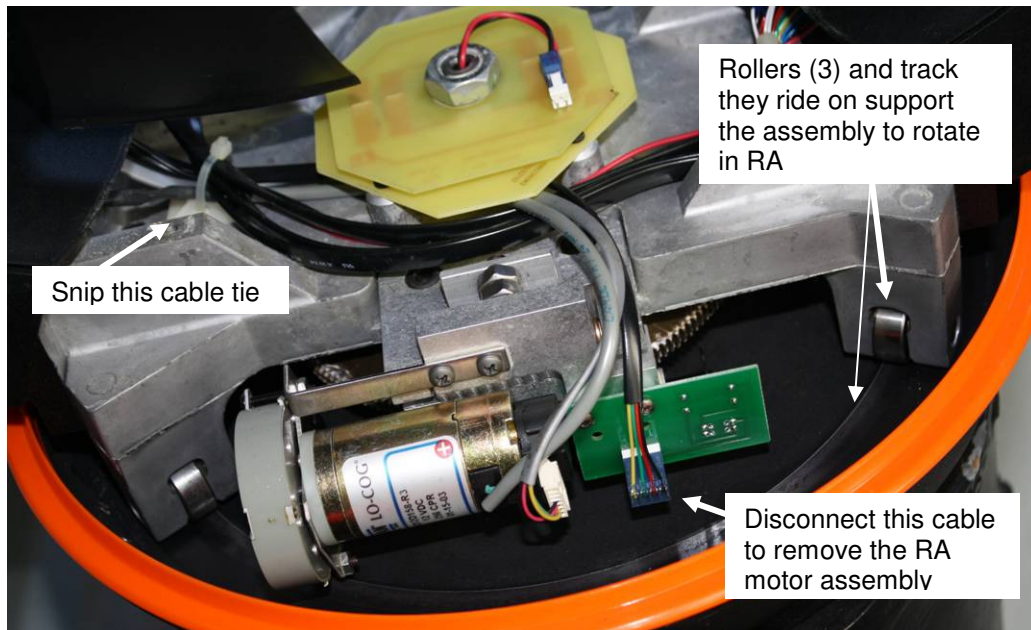

Figure 14: RA structure, showing rollers and motor assembly
4.3 Removing the Main Bearing: With the control panel removed, you have free access to the RA mechanism of the mount, as shown in Figures 14 and 15. The slip ring assembly is in the center (note the two-wire cable that passes through the center bolt and nut), and the RA drive mechanism is on the bottom of the photos.
Also visible in Figure 14 is a cable-tie. You'll need to snip this, to free up the cables that it holds. I didn't replace it when I put the mount back together; I just re-routed the cables so that they wouldn't get hung up anywhere as the mount rotates.